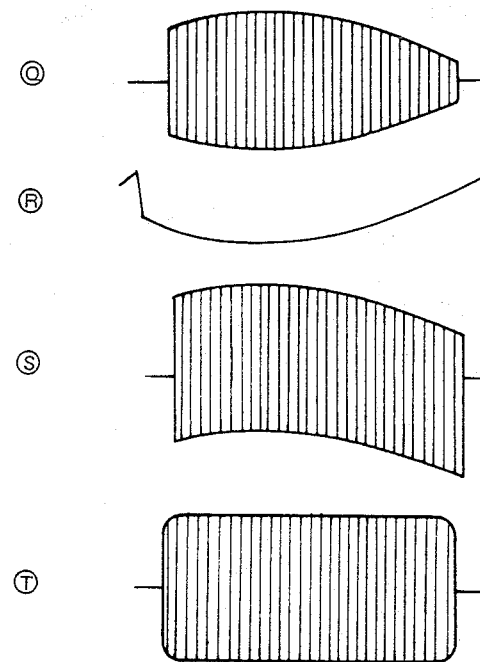

Fig. 72 Shading Correction
IC308 aside from performing other functions, performs signal shading correction. Suppose a uniformly illuminated white object is seen by the camera and the modulated R (Rc) signal has a shading (unevenness of amplitude) such as that shown in Fig. 72 (C). This is sent to pin No. 3 of IC308 and the modulated R (Rc) signal delayed by 1H is also applied to pin No. 2 of the same IC.